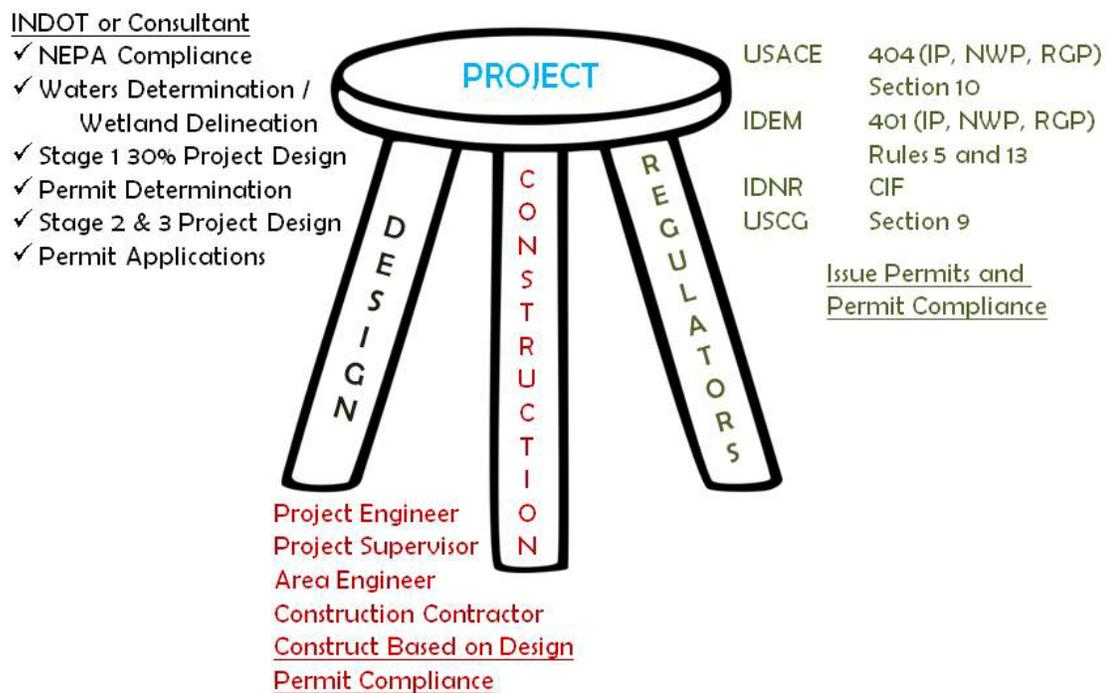

Figure 2.1 Three-Legged Stool
The EWPO is a part of a larger project team, which include both INDOT staff and contractors that are involved in project design and construction (Figure 2.1). Some of the activities that occur in the design phase include NEPA compliance, waters and wetland delineations, permit determinations, and permit application preparation. Based on the project scope, these activities may be completed by INDOT district or central office staff or a consultant. EWPO involvement begins with Ecological investigations and continues through project completion. EWPO roles can be in the form of the initiator, reviewer, advisor and/or liaison. During the construction phase, the Project Engineer (PE), Project Supervisor (PS), Area Engineer (AE), and contractor ensure that the project is constructed according to design and that the project stays in compliance with the issued permits. The regulatory agencies (most commonly USACE, IDEM, IDNR, and the USCG) issue the required permits and monitor permit compliance.